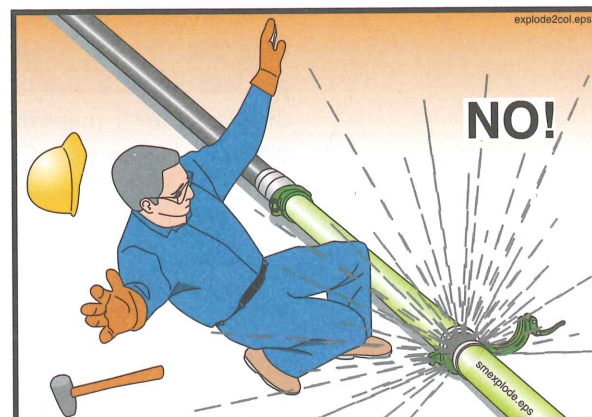

Figure 52
- 15.6** **⚠ WARNING** Never open a pressurized pipeline (Figure 52). The pump operator must release the pressure before you open the line: If the line is pressurized with compressed air, let the operator release the pressure and verify that the air has escaped before you proceed.